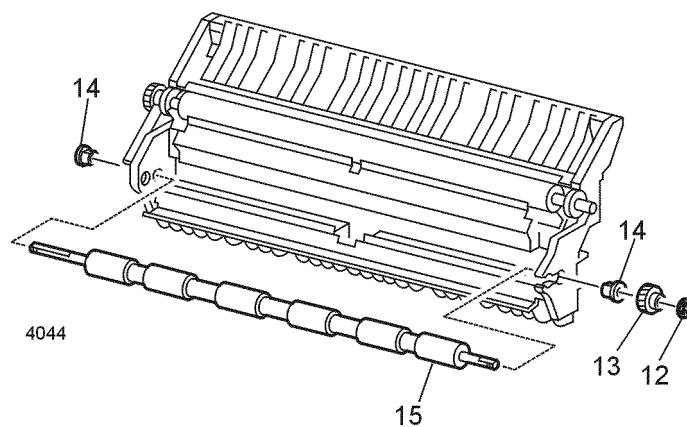

Figure 1 Rubber Registration Roll
12. Remove the E-ring that secures the Registration Gear to the right end of the Registration Roll (Figure 1).
13. Remove the Registration Gear from the Registration Roll (Figure 1).
14. Remove the left and right bearings from the Registration Roll (Figure 1).
15. Lift the right end of the Registration Roll and remove (Figure 1).